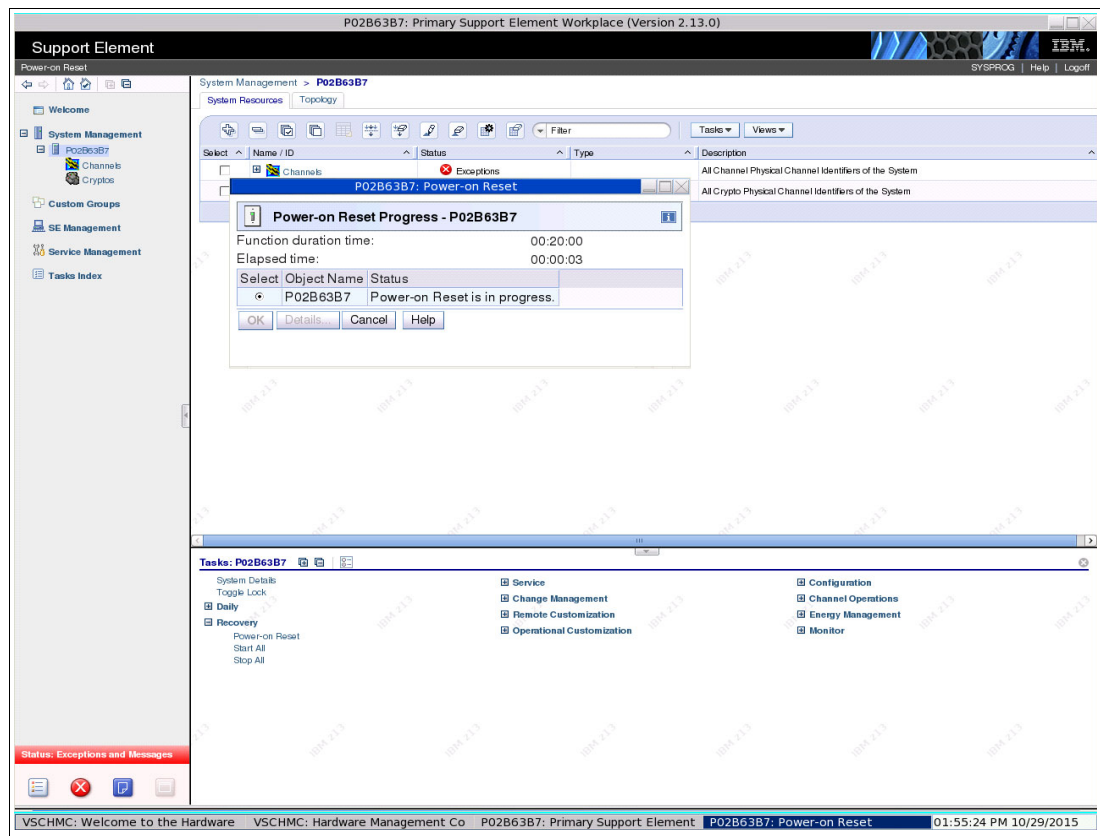

Figure 4-19 POR in progress
7. We select **Yes** to continue and the POR progress window opens, as shown in Figure 4-19.